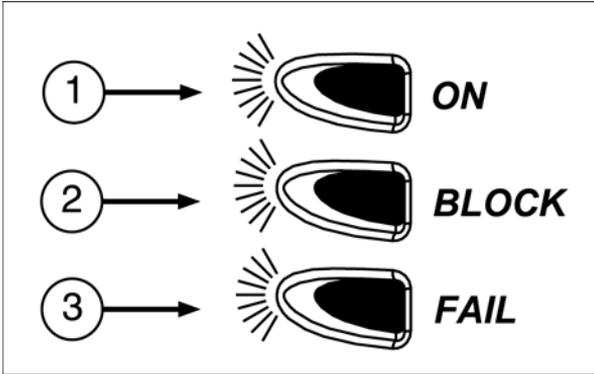

Figure 2. LED Descriptions
- Figure 2 and Table 3 describe the sampler's LEDs.